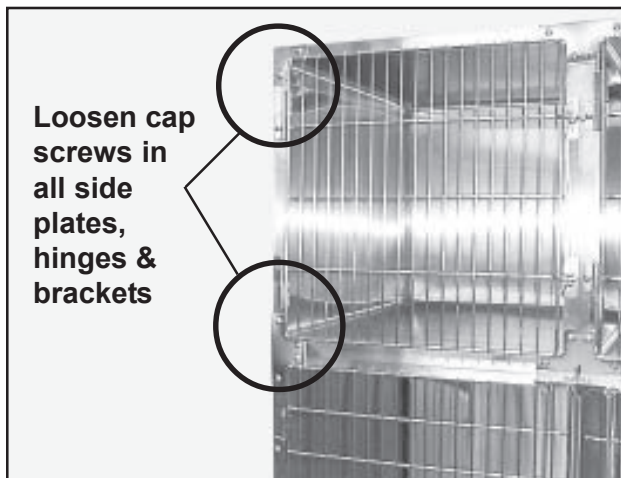

Figure 39. Loosening Side Hardware Cap Screws
1. Loosen all the cap screws on all the assembly hardware, hinges and L-brackets on the end of the cage to which the end panel is to be mounted (Figure 39).